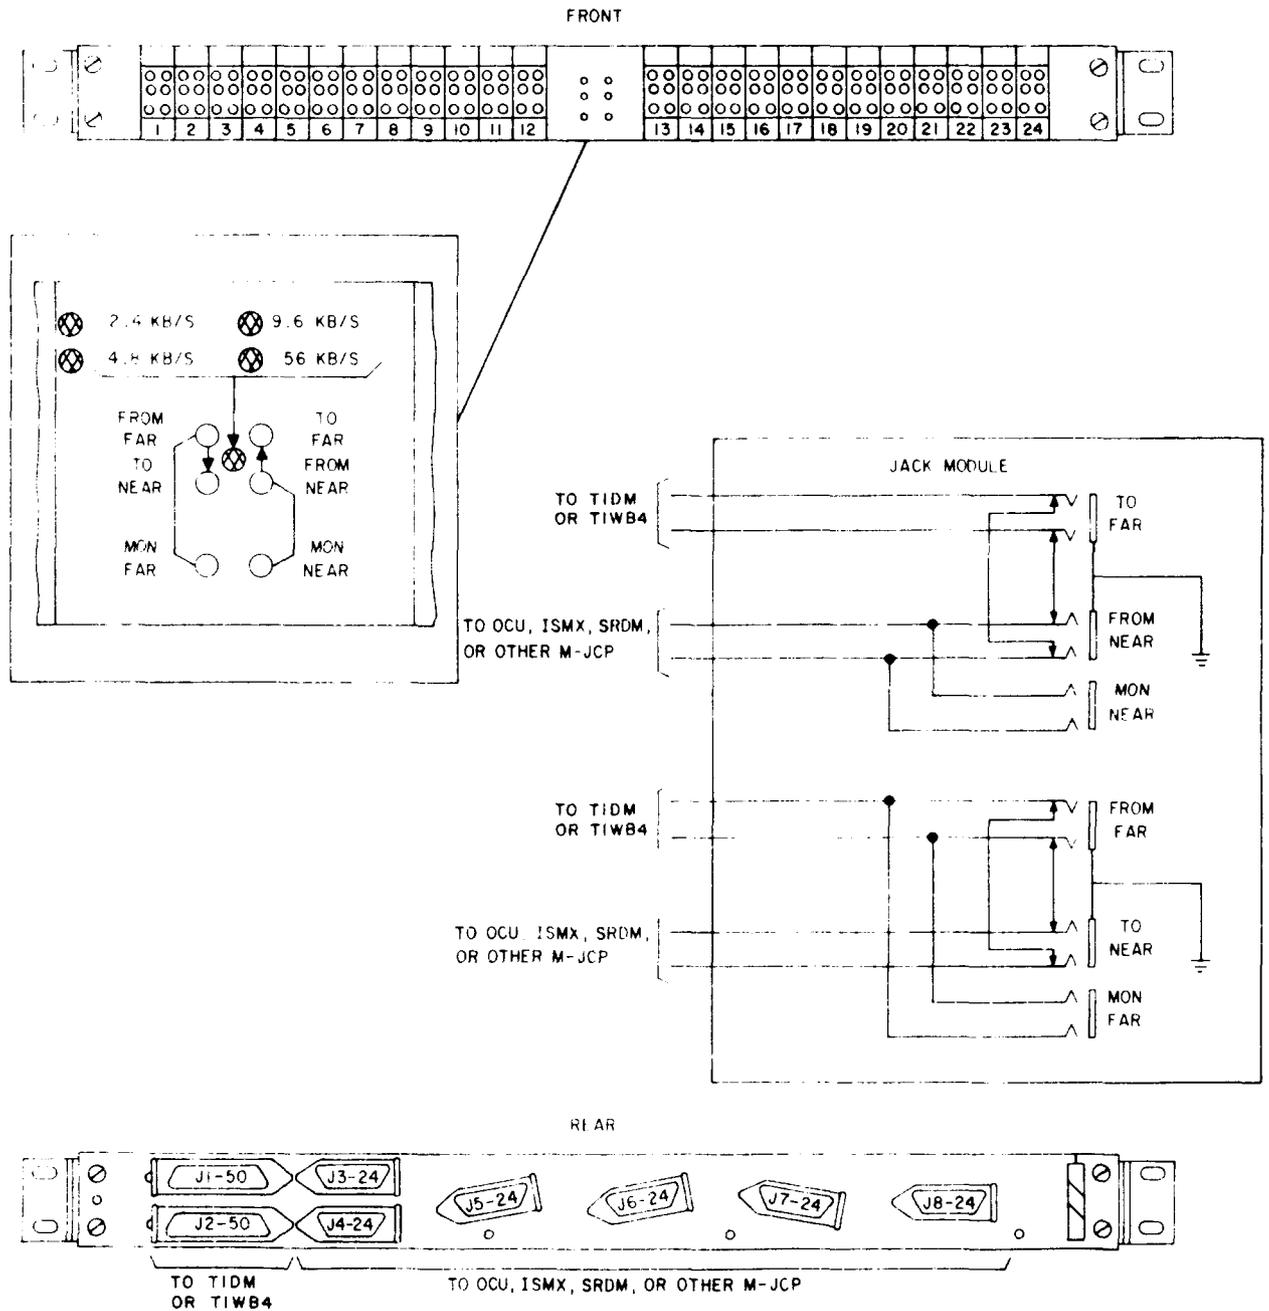
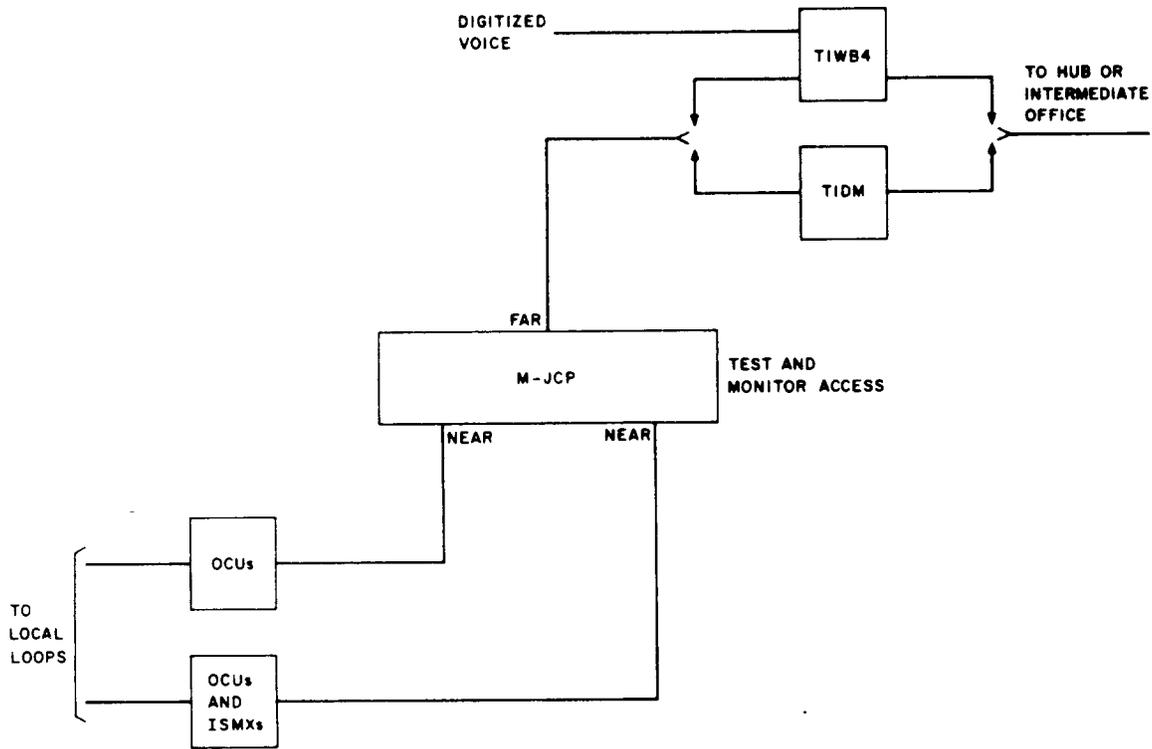
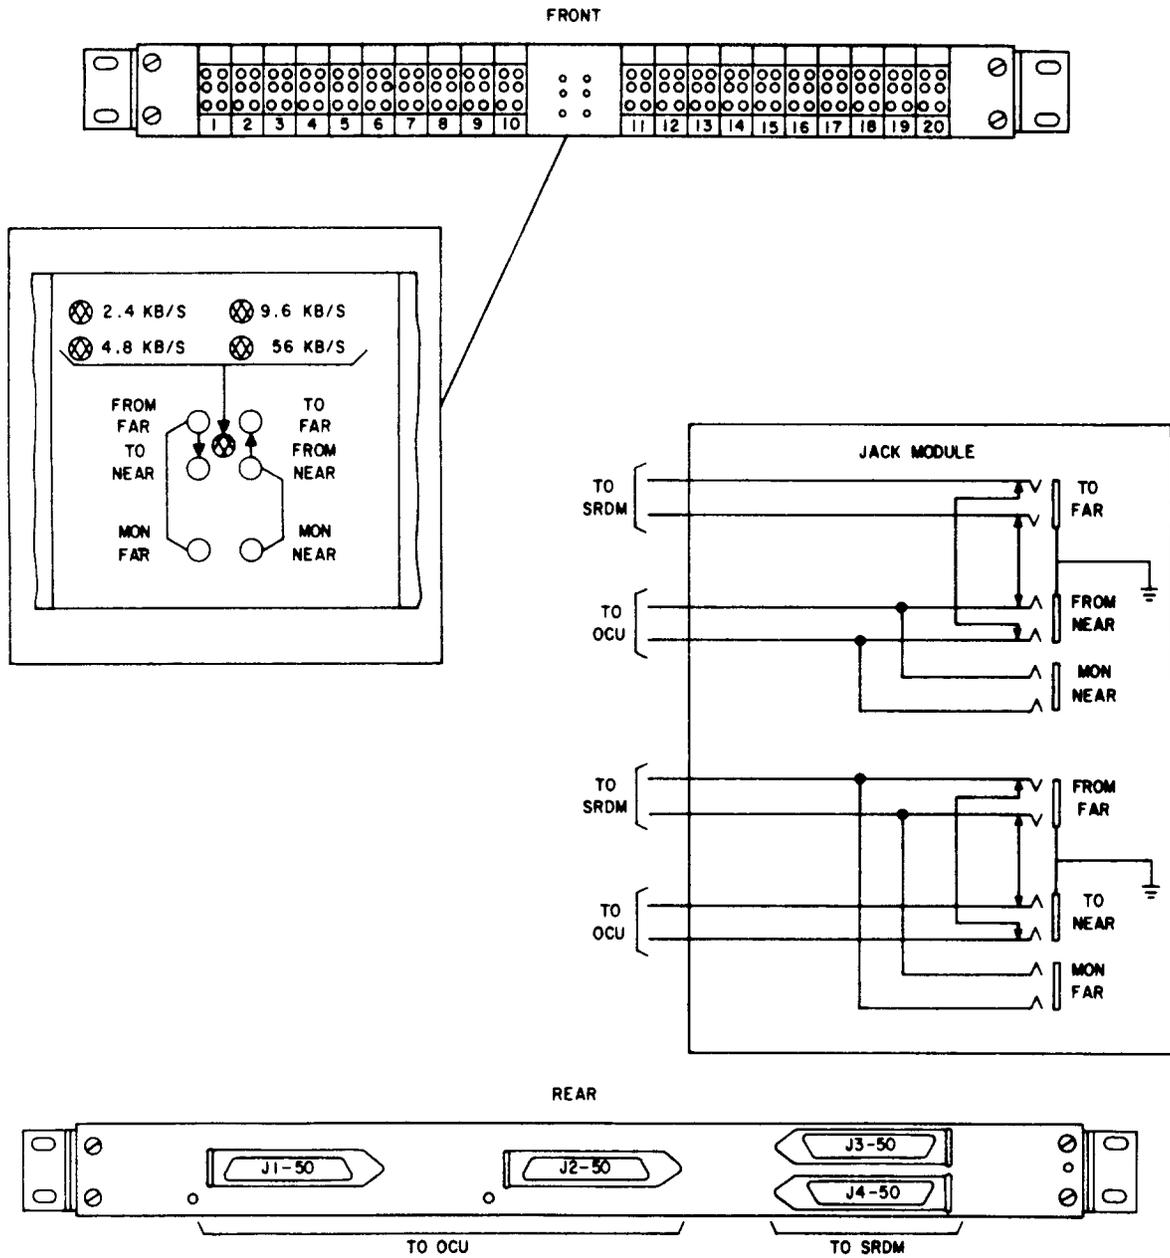

Fig. 1—Multiplexer Jack and Connector Panel
Fig. 2—Example of Local Office Arrangement Using M-JCP
Fig. 4—Substrate Data Multiplexer Jack and Connector Panel
**1.05** The M-JCP (Fig. 1) provides jacks for test and monitor access to 24 individual 64-kb/s (DS-0) data channels. Electrically the M-JCP is located between a T1 data multiplexer (T1DM) or one or two T1WB4s and office channel units (OCUs), 5- or 10-channel integral subrate multiplexers (ISMxs), or subrate data multiplexers (SRDMs), as shown in Fig. 2 and 3. The T1DM or T1WB4s (referred to as the FAR equipment) are connected to the M-JCP by means of two 50-pin connectors located on the rear of the M-JCP. The OCUs, ISMXs, or SRDMs are connected to the M-JCP by means of six 24-pin connectors (four DS-0 channels for each connector) located on the rear of the M-JCP. The equipment connected to these connectors is referred to as the NEAR equipment.
**1.06** The SM-JCP (Fig. 4) provides jacks for test and monitor access to 20 individual 64-kb/s (DS-0) data channels. Electrically the SM-JCP is located between the OCUs and SRDMs in the local office. The OCUs and the SRDMs are referred to as the NEAR and FAR equipment, respectively. Connections from the equipment through the SM-JCP are made at the rear of the panel by means of four 50-pin connectors.
equipment bay (see Table A). A KS-21042, L1 jack panel containing two groups of ten jack modules is mounted on the front of the SM-JCP (Fig. 4). Each jack module is numbered from 1 to 20 consecutively. At the rear of the SM-JCP are two 50-pin connectors, J3 and J4, for SRDM connection and two 50-pin connectors, J1 and J2, for OCU connection. A KS-21042, L2 jack panel containing two groups of 12 jack modules is mounted on the front of the M-JCP (Fig. 1). Each jack module is numbered from 1 to 24 consecutively. At the rear of the M-JCP are two 50-pin connectors, J1 and J2, for T1DM or T1WB4 connection and six 24-pin connectors, J3 through J8, for connection of the OCU, ISMX, SRDM, or other M-JCP, depending on the bay configuration. In both the SM-JCP and the M-JCP, the internal wiring is complete except for the KS-13385, stranded, 16 AWG, signal ground bus at the rear of the unit, which must be connected to the bay signal ground bus.